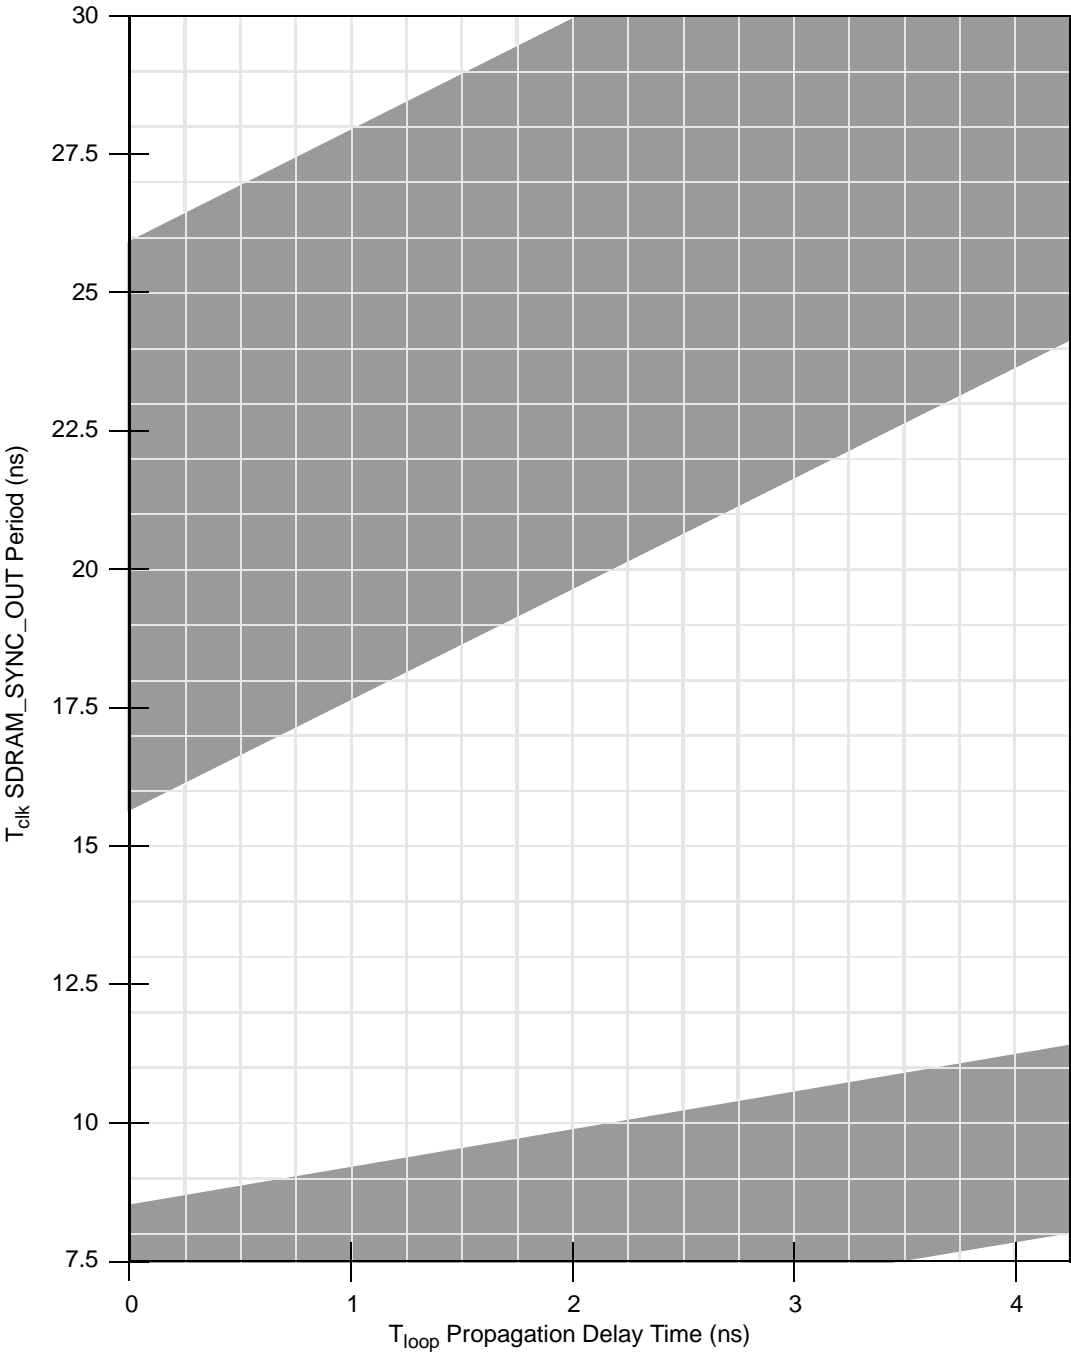
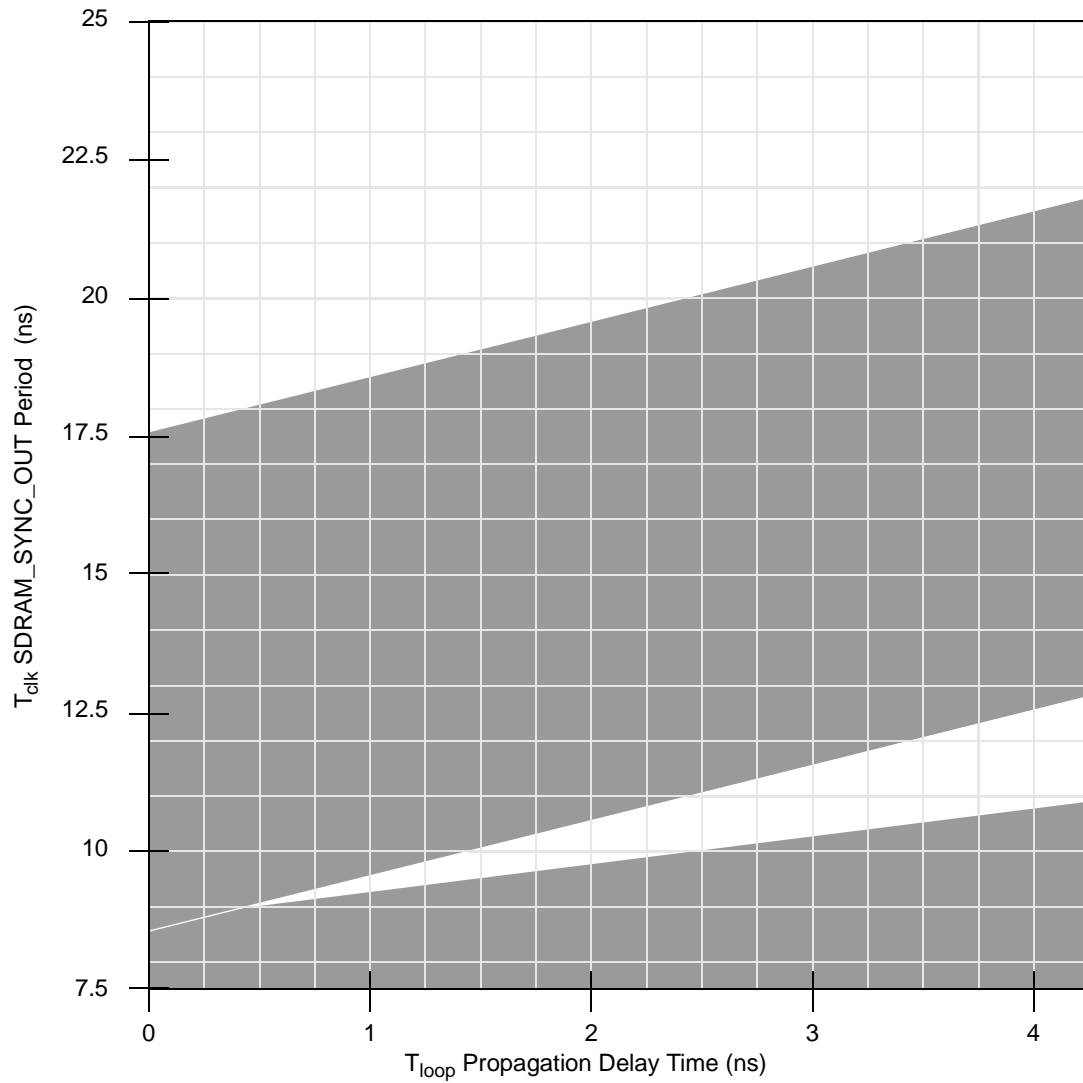

Figure 5. DLL Locking Range Loop Delay vs. Frequency of Operation for DLL\_Extend=1 and Normal Tap Delay
Figure 8. DLL Locking Range Loop Delay vs. Frequency of Operation for DLL\_Extend=0 and Max Tap Delay
- DLL\_EXTEND is bit 7 of the PMC2 register <72>. N is a non-zero integer (1 or 2). Tclk is the period of one SDRAM\_SYNC\_OUT clock cycle in ns. Tloop is the propagation delay of the DLL synchronization feedback loop (PC board runner) from SDRAM\_SYNC\_OUT to SDRAM\_SYNC\_IN in ns; 6.25 inches of loop length (unloaded PC board runner) corresponds to approximately 1 ns of delay. Tfix0 is a fixed delay inherent in the design when the DLL is at tap point 0 and the DLL is contributing no delay; Tfix0 equals approximately 3 ns. See Figure 5 through Figure 8 for DLL locking ranges.
Figure 4 shows the PCI\_SYNC\_IN input clock timing diagram and Figure 5 through Figure 8 show the DLL locking range loop delay vs. frequency of operation.
The graphs in Figure 5 through Figure 8 define the areas of DLL locking for various modes. The grey areas represent where the DLL will lock.